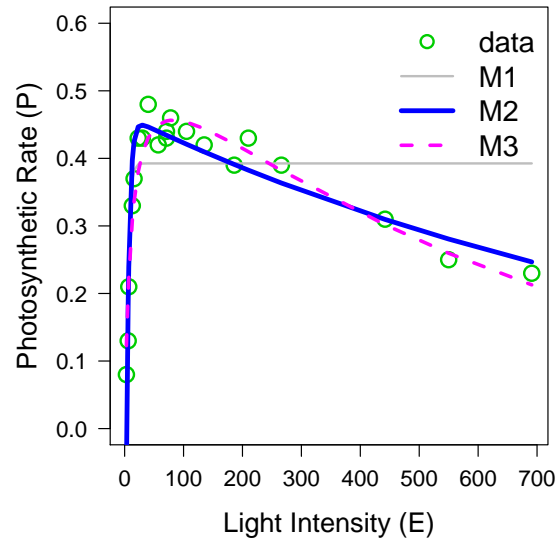

Figure 2: Example of fitting alternative process models to laboratory data for the relationship between photosynthesis (P) and light irradiance (E).
which is encoded in R in the *nls* function. I used the *nls* function to fit the models in equations (3), (4) and (5). The estimated parameter values are shown in Table 1 and the estimated lines are shown in Fig. 2. A word of caution. If you are going to use these powerful numerical methods, you should learn more about them. Unfortunately, this material is beyond the scope of this class.